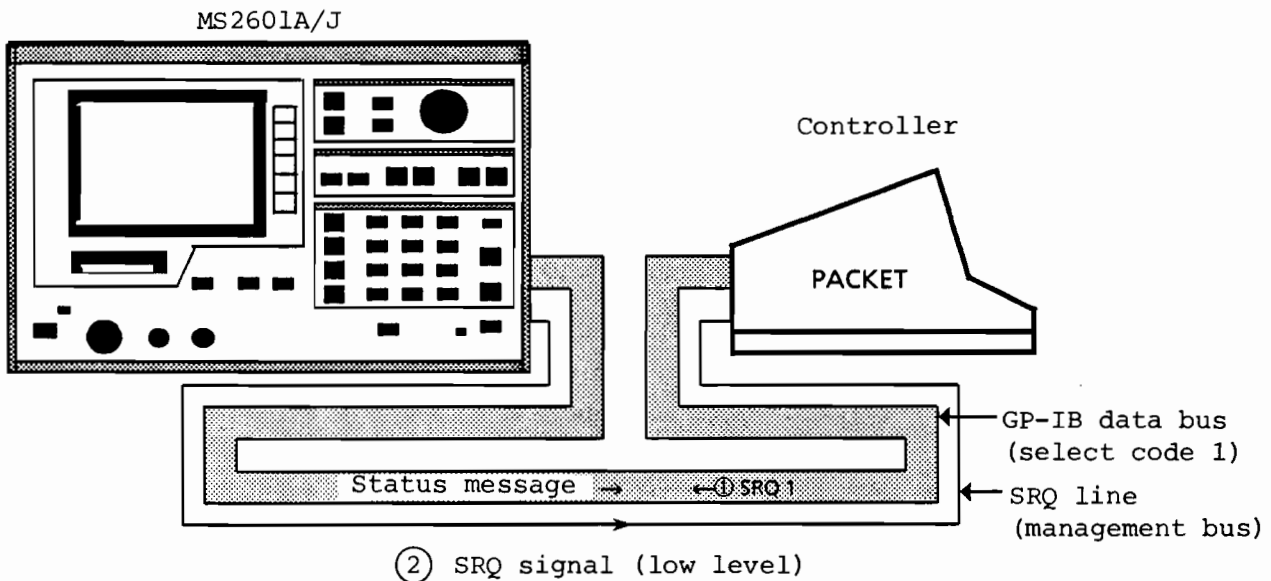

Fig. 12-3 Sending Status Messages
- ①: The controller executes WRITE @101:"SRQ 1" to turn on the MS2601A/J SRQ function. (+① SRQ 1 in Fig. 12-3)
- ②: When the MS2601A/J receives SRQΔ1, SRQ is issued to the controller with bit 6 set to 1 (low) at sweep termination or error (Table 12-1). In other words, a service request is issued if the following conditions occur. (② SRQ signal (low level) in Fig. 12-3)